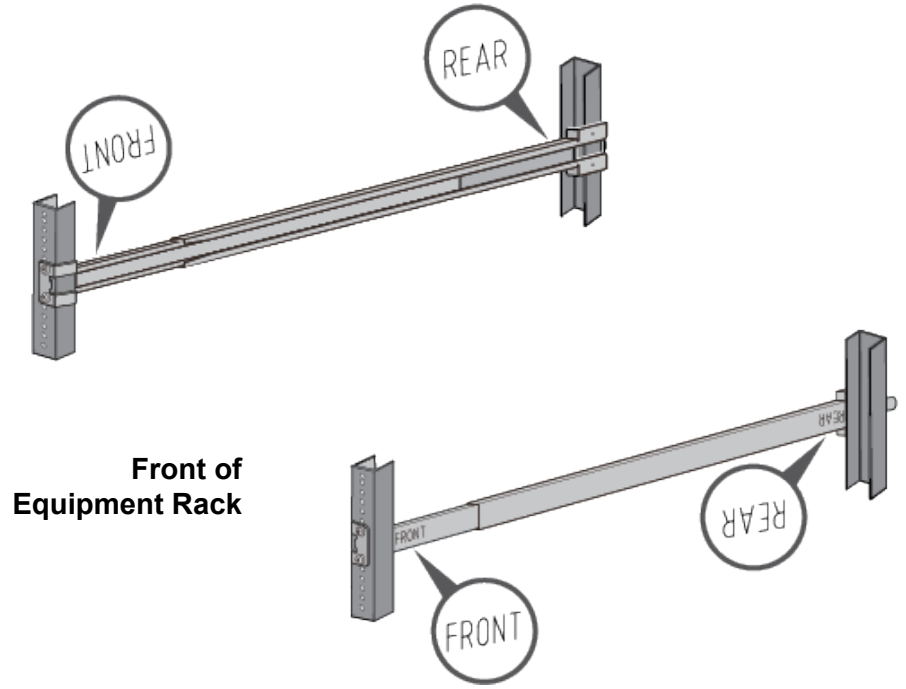

Figure 72. Installing the Outer Rails on the Equipment Rack
2. Attach the outer rails to the equipment rack using the supplied screws. Use four screws per rail. Refer to Figure 72 on page 150. Installing the switch can be easier if you leave the screws slightly loosened now and fully tightened them after the switch is installed.